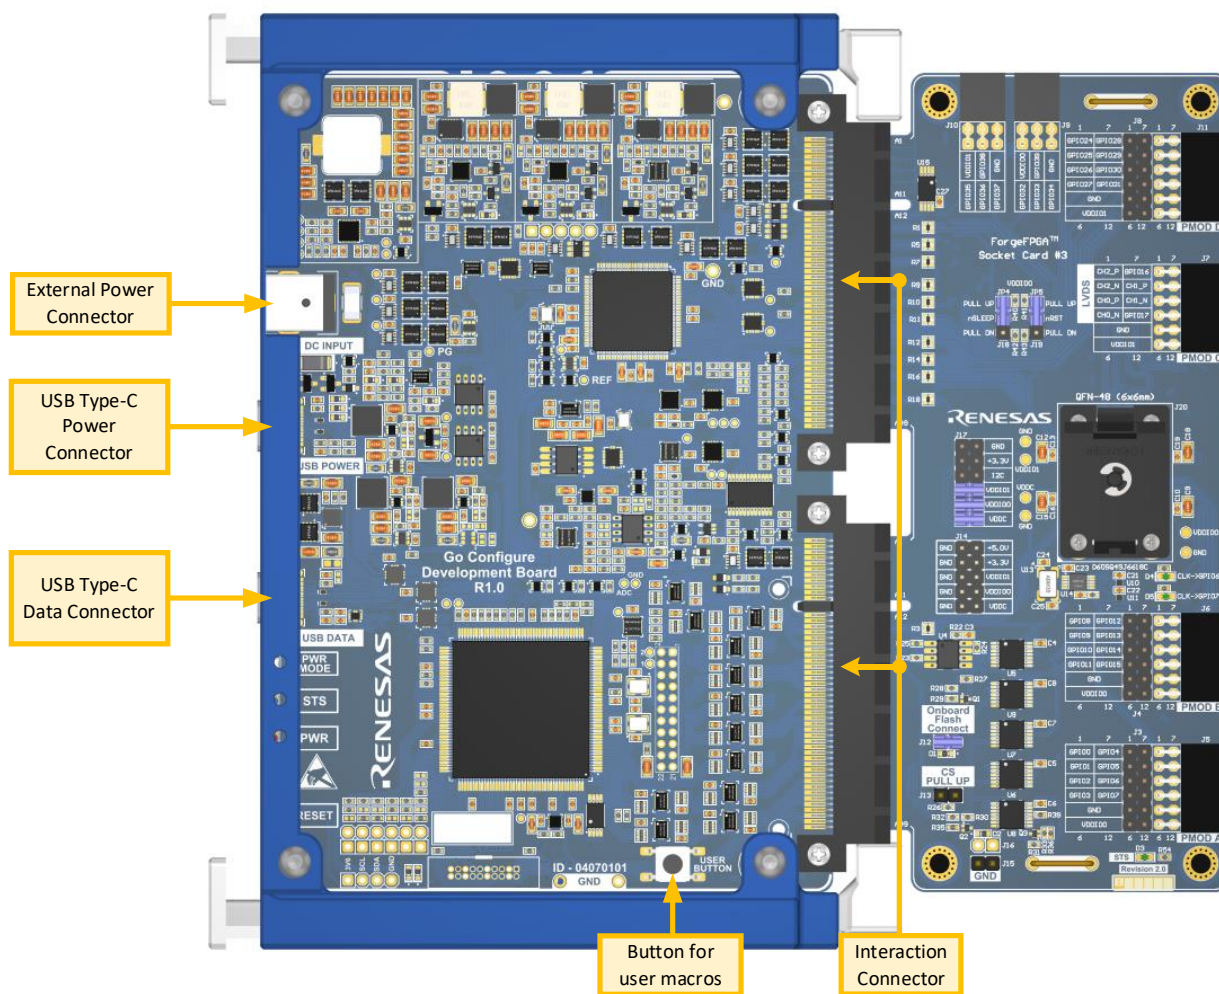

Figure 10. Development Kit
**Important:** The USB cable should be connected directly to the PC. Avoid using USB hubs or docking stations. Ensure the Socket Card is properly connected to the Go Configure Development Board as shown in **Figure 10**.